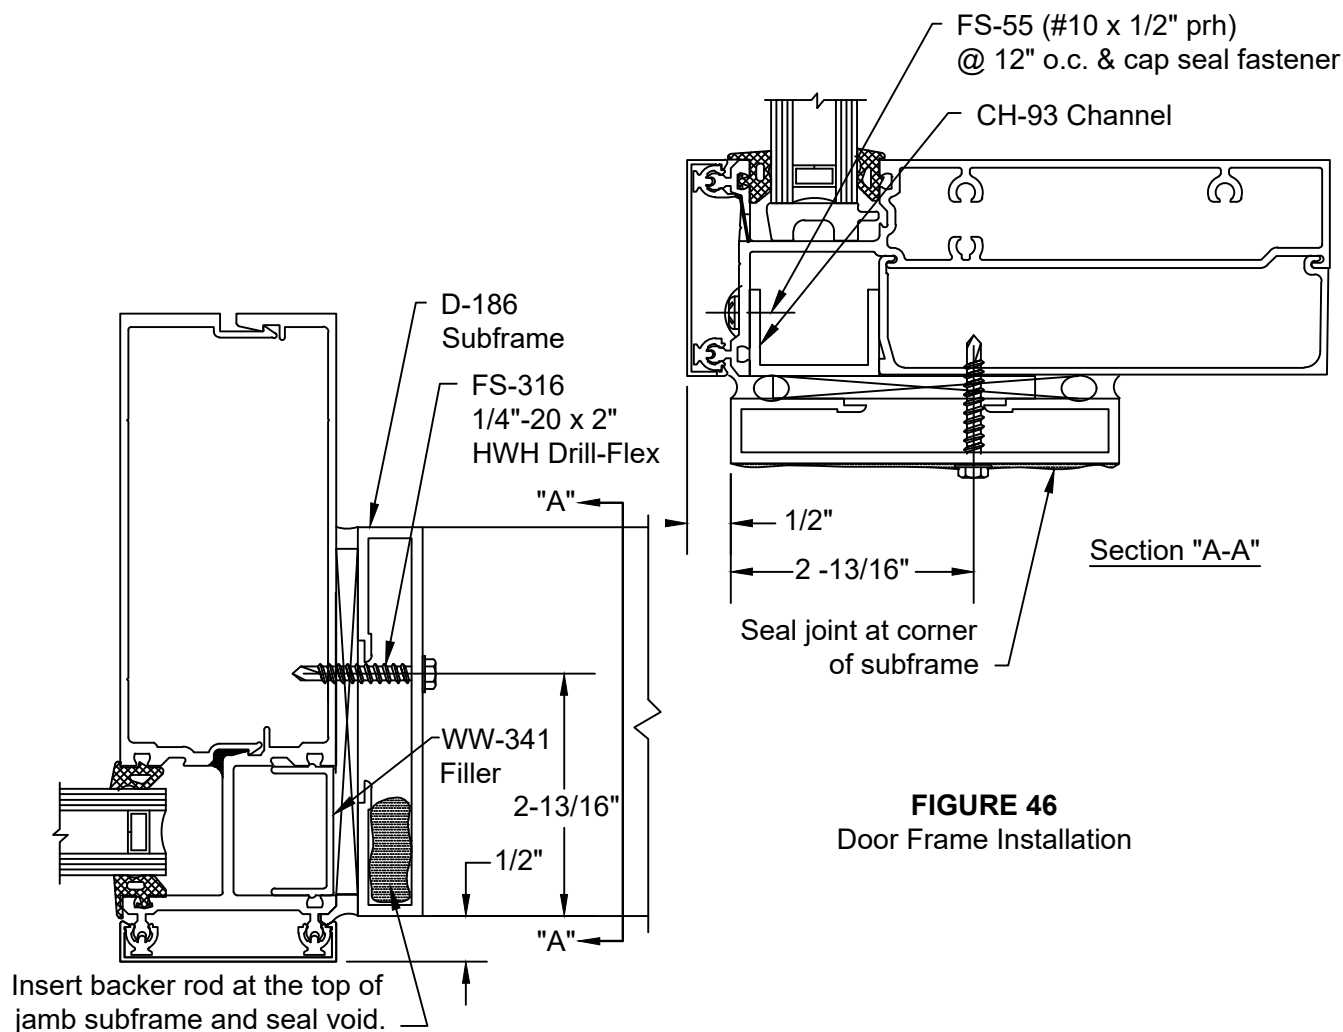

FIGURE 46
- D.2.1 Attach TH-44 threshold clip to bottom of each jamb subframe with two (2) FS-256 #8 x 1 1/2" Phillips Round Head Screws.
- D.2.3 Bed subframes in sealant and anchor to curtain wall framing members with FS-316 1/4"-20 x 2" Drillflex at 18" O.C. Seal joint between jamb and header subframes. Seal also the tops of the jamb subframes. SEE FIGURE 46.